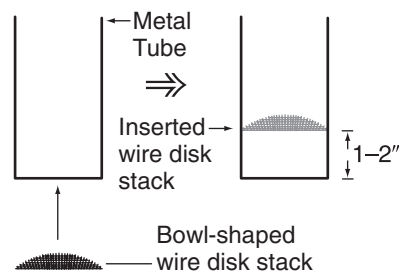

Figure 3.
- Insert the curved end of the wire disk “stack” into the end of the metal tube, opposite to the label. See Figure 3. Carefully push and “massage” around the edges of the stack evenly in order to slide the disks into the tube so that they remain parallel with the tube opening. (When you look inside the tube, there should be no gaps between the disks’ edges and the wall of the tube.) The friction between the wall of the tube and the edges of the disks should keep them secure inside the tube. If the disks are loose or fall out, remove them and flatten them out slightly to increase their diameter so they fit snugly inside the tube. If the wire disks are pushed in crookedly, use pliers to remove them completely and begin again. Proceed slowly in order to keep the wire disks parallel with the opening of the tube.
- Once the wire disks are inside the tube opening squarely, slide them down the tube so that they are about 1–2” from the end of the tube. See Figure 3.